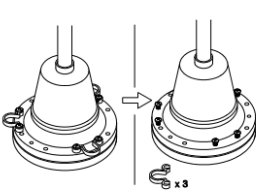

Fig. 4.1
4. Remove the plastic shipping stabilizer tabs as in Fig. 4.1 then fit the blades to the fan motor as shown below in fig. 4.2 with bracket facing upward